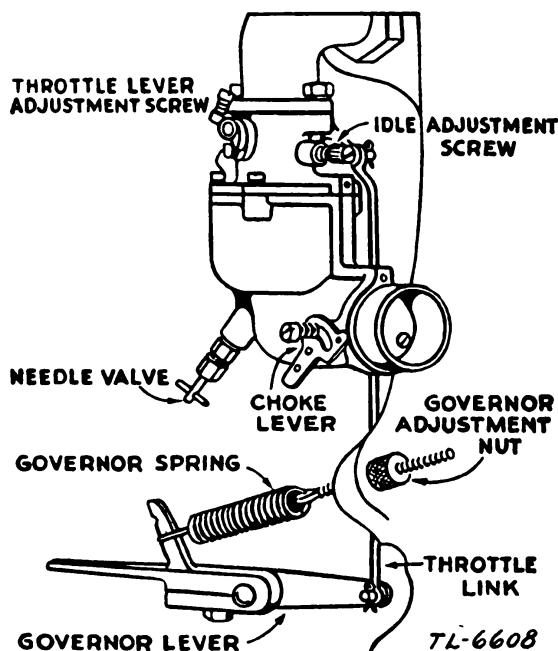

FIGURE 7. Carburetor and governor hook-up.
d. Carburetor adjustment (fig. 7). To adjust the carburetor, close the needle valve by turning it in a clockwise direction as far as possible. Do not tighten the valve with too much force since damage to the mechanism may result. From the closed position, open the needle valve 1 to $1\frac{1}{4}$ turns. After the motor has been started and warmed up, make the final adjustment with the choke wide open by turning the needle valve to the position at which the motor operates most smoothly under full load. This setting
10. GOVERNOR (fig. 7).